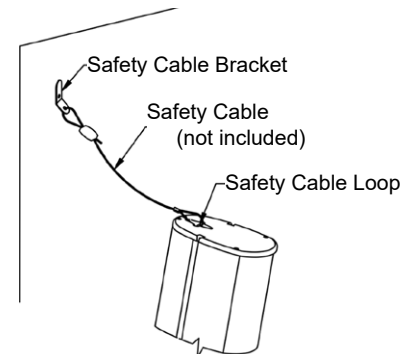

Figure 2. Attaching the safety cable
4. Secure the loudspeaker with a safety cable attached to the loop on the top (Figure 2). The cable should be attached to the included bracket, and mounted to a secondary mounting point close to the top of the enclosure to avoid any kinetic force if the primary mount should fail.